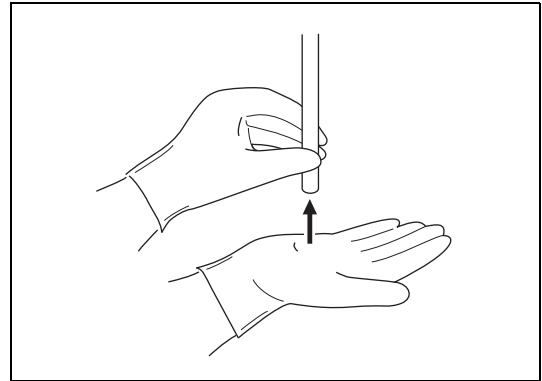

Figure 4.1
- 1 **Exercise the endoscope's automatic iris. Bring the tip of the endoscope within 1 cm of the palm of your hand and move it to about 5 cm away from your palm. Watch the image displayed on the monitor to ensure the brightness at both distances is similar. Lift the distal end of the endoscope close to the room lights, and check that the light being emitted from the distal end of the endoscope lowers significantly (dependent on the ambient light levels in the room). Return the distal end of the endoscope to a point on your palm and ensure that the light is being emitted from the distal end of the endoscope. (Refer to Figure 4.1.)**